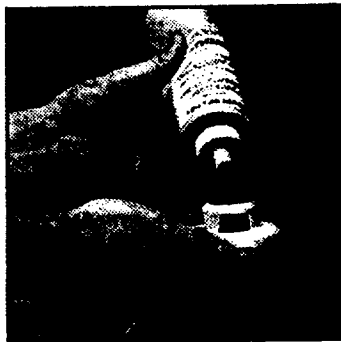

Fig. F.4
- d. Prepare the THM by placing approximately 1 teaspoon (5 ml) of coupling gel on the round flat black surface on the THM transducer. Do not spread the gel on the transducer surface. The system is designed so that the gel is spread evenly when the transducer contacts the skin (Fig. F.4).